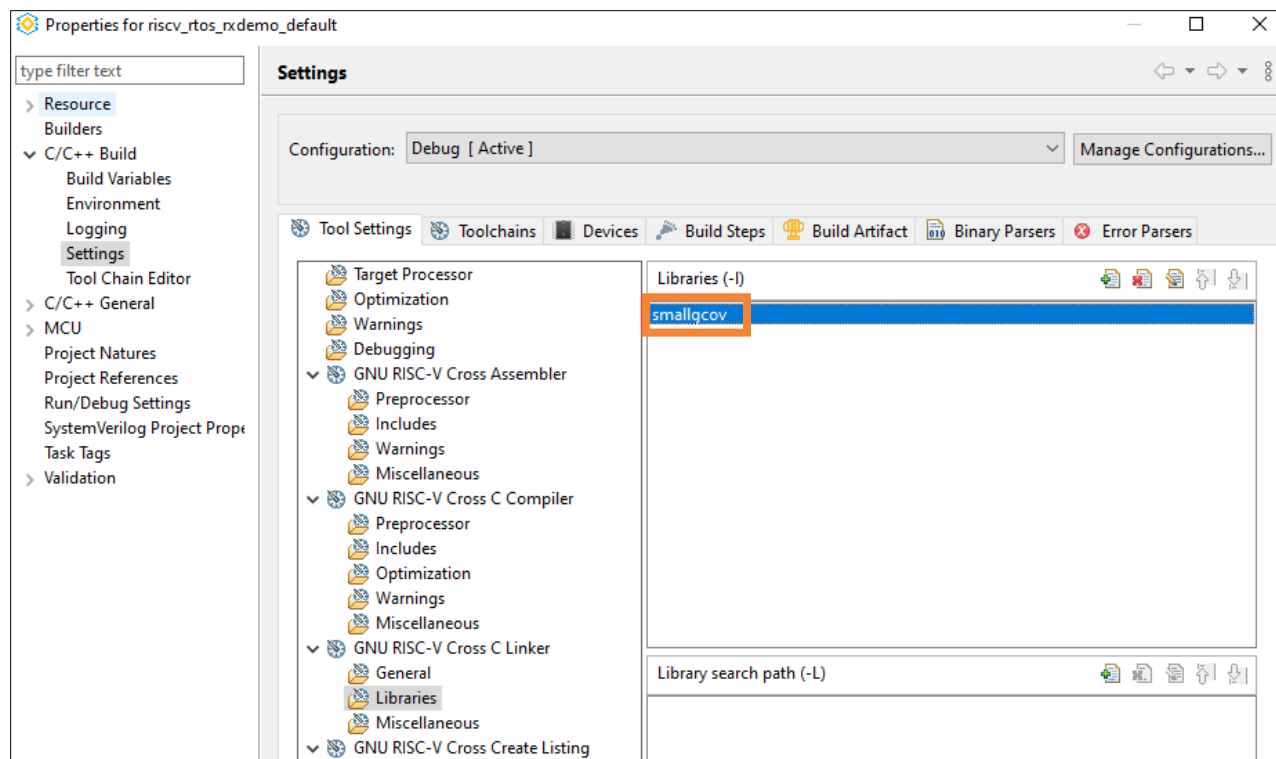

Figure 5.27. smallgcov Library
5. Select **GNU RISC-V Cross C Linker > Libraries**. Add the library, `smallgcov` (Figure 5.27).